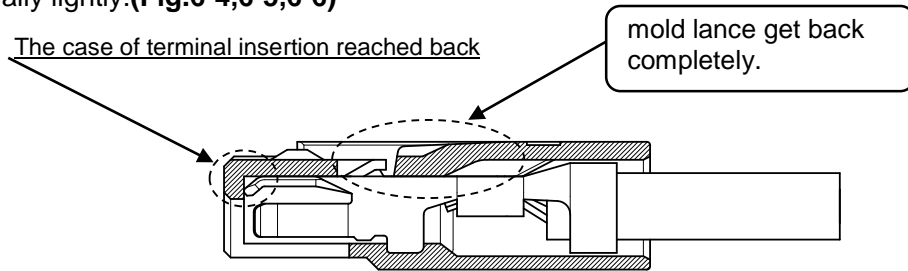

Fig.6-4 The case of correct insertion
- ⑤ After inserting all terminals, please confirm the position of terminal lance part by seeing through window of receptacle mold lance. If they are inserted correctly, terminal lance is at the position where terminal lance get over mold lance properly and you can confirm clearance by shaking them insertion axially lightly.(Fig.6-4,6-5,6-6)